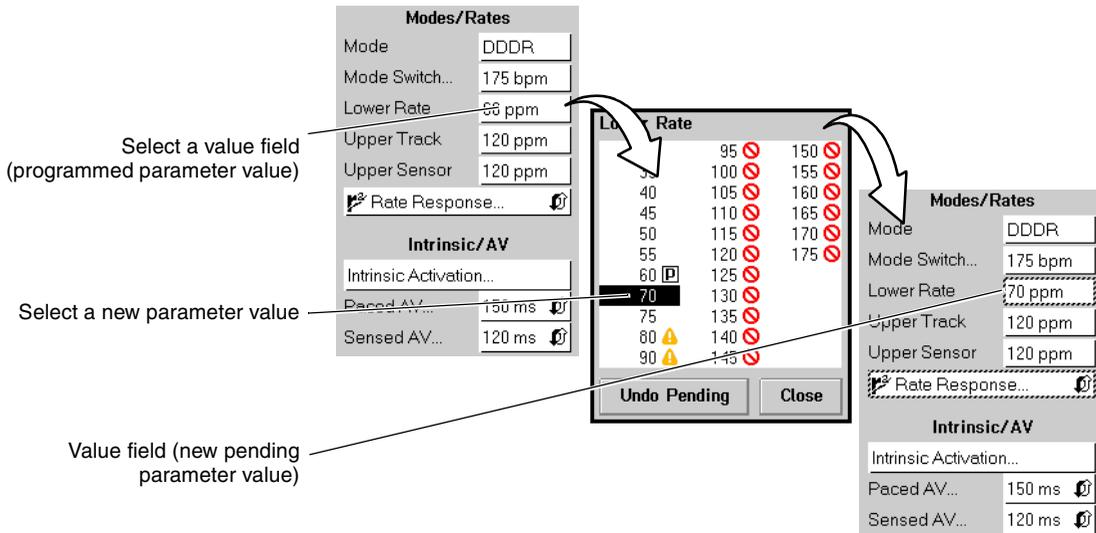

Figure 7-3. Programming pacing parameters
1. Select the desired parameter value from those displayed — for example, Lower Rate as shown in Figure 7-3.